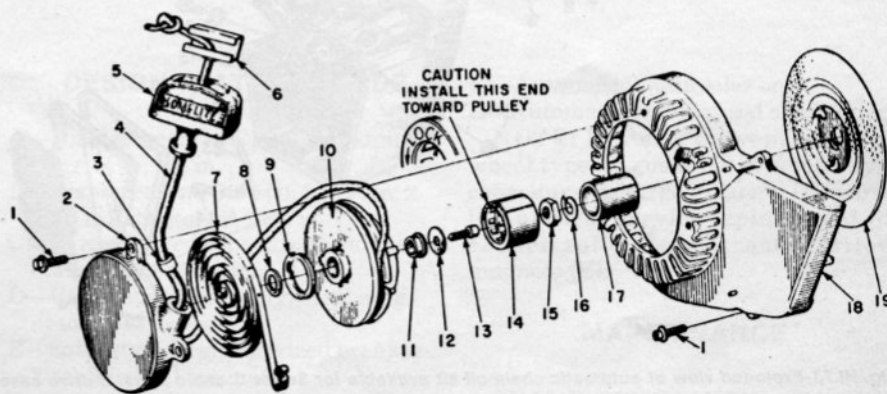

Fig. HL71—Exploded view of overrunning bearing starter used on models listed in text.
Models C-51, C-51G, C-71, C-71G, C-91, C-91G, XP-1000, XP-1100 and early models XP-1020, XP-1020A and XP-1130A are equipped with an overrunning bearing type starter as shown in Fig. HL71. Bearing (14) must be installed with end lettered "LOCK" towards rope pulley (10).